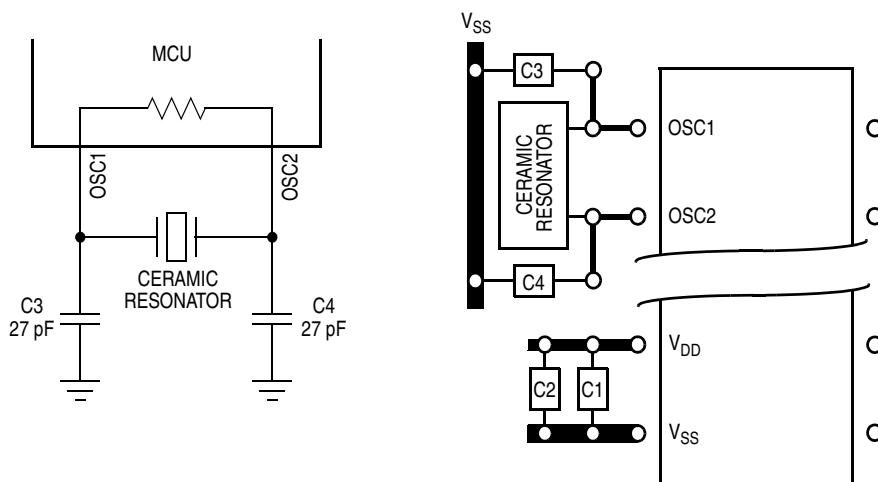
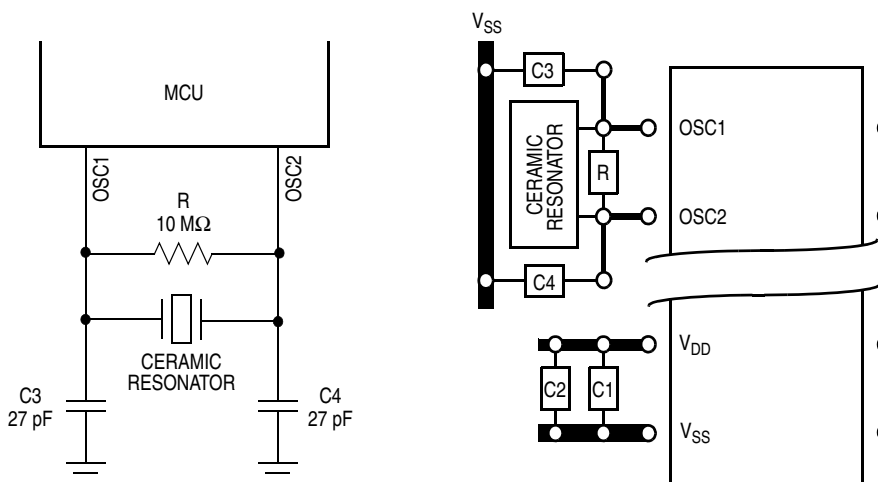
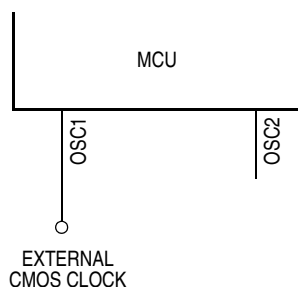

Figure 1-6. Ceramic Resonator Connections with Oscillator Internal Resistor Mask Option
Figure 1-7. Ceramic Resonator Connections without Oscillator Internal Resistor Mask Option
Figure 1-8. External Clock Connections
2. Ceramic resonator (See Figure 1-6 and Figure 1-7.)
3. Resistor/capacitor (RC) oscillator (Refer to Appendix A MC68HRC705KJ1.)
4. External clock signal as shown in (See Figure 1-8.)
To reduce cost, use a ceramic resonator instead of the crystal. The circuits shown in Figure 1-6 and Figure 1-7 show ceramic resonator circuits. Follow the resonator manufacturer’s recommendations, as the resonator parameters determine the external component values required for maximum stability and reliable starting. The load capacitance values used in the oscillator circuit design should include all stray capacitances.
An external clock from another CMOS-compatible device can be connected to the OSC1 input, with the OSC2 input not connected, as shown in Figure 1-8. This configuration is possible regardless of whether the crystal/ceramic resonator or the RC oscillator is enabled.